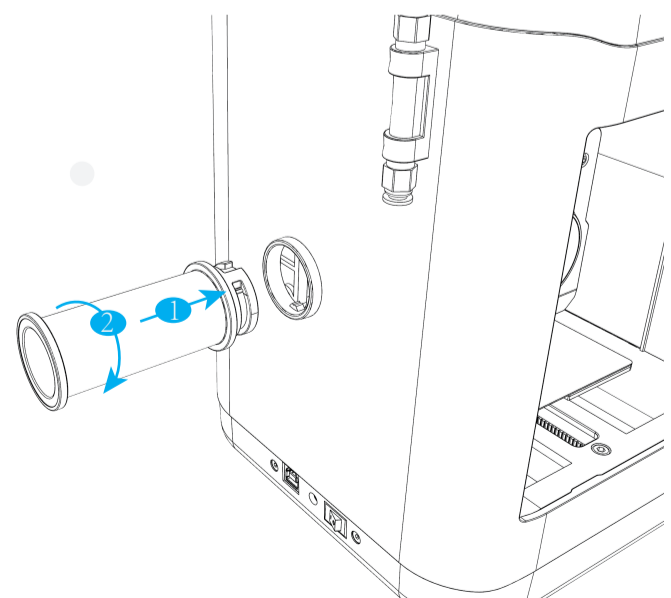

Figure 4
05. Install the Filament bracket. First, insert the filament bracket into the hole of the M1 shell, and then rotate it clockwise. When you hear the sound of the buckle locking, it means that the Filament bracket is installed successfully, as shown in Figure 4 below.